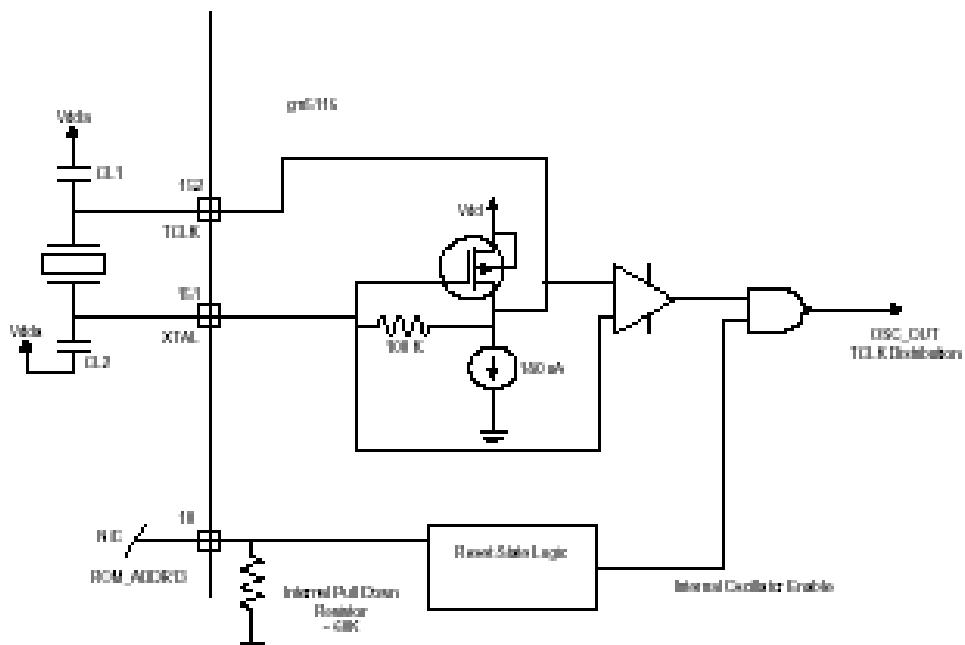
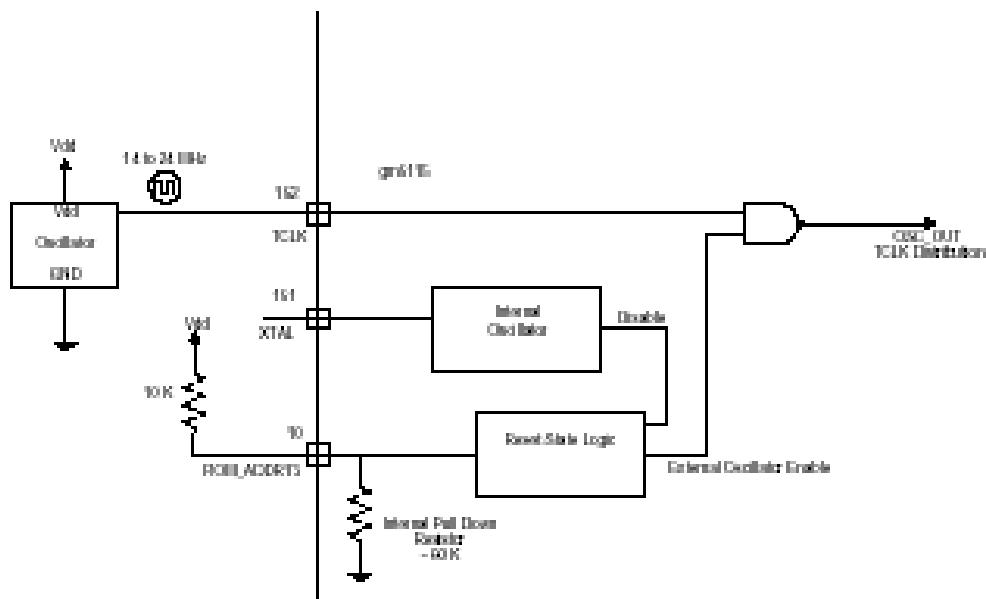

Figure 4. Using the Internal Oscillator with External Crystal
Figure 7. Using an External Single-ended Clock Oscillator
1. Crystal Input Clock (TCLK and XTAL). This is the input pair to an internal crystal oscillator and corresponding logic. A 14.3 MHz TV crystal is recommended. Other crystal frequencies may be used, but require custom programming. This is illustrated in Figure 4 below. Alternatively, a single-ended TTL/CMOS clock oscillator can be driven into the TCLK pin (leave XTAL as N/C in this case). This is illustrated in Figure 7 below. This option is selected by connecting a 10KΩ pull-up to ROM_ADDR13 (refer to Table 18). See also Table 14.
Another option for providing the reference clock is to use a single-ended external clock oscillator. When the gm5115/25 is in reset, the state of the ROM_ADDR13 (pin 10) is sampled. If ROM_ADDR13 is pulled high by connecting to VDD through a pull-up resistor ($15K\Omega$ recommended, $15K\Omega$ maximum) then external oscillator mode is enabled. In this mode the internal oscillator circuit is disabled and the external oscillator signal that is connected to the TCLK pin (pin number 152) is routed to an internal clock buffer. This is illustrated in Figure 7.